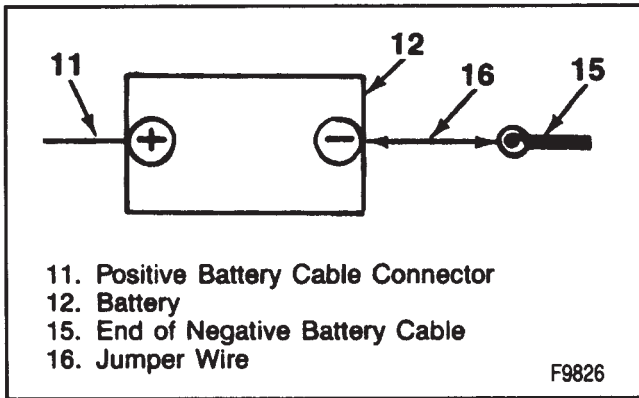

Figure 7—Jumper Wire Position
4. Install a 3 mm2 (12 gage) jumper wire with an alligator clip on each end between the end of the negative battery cable and the side terminal adapter (figure 7).